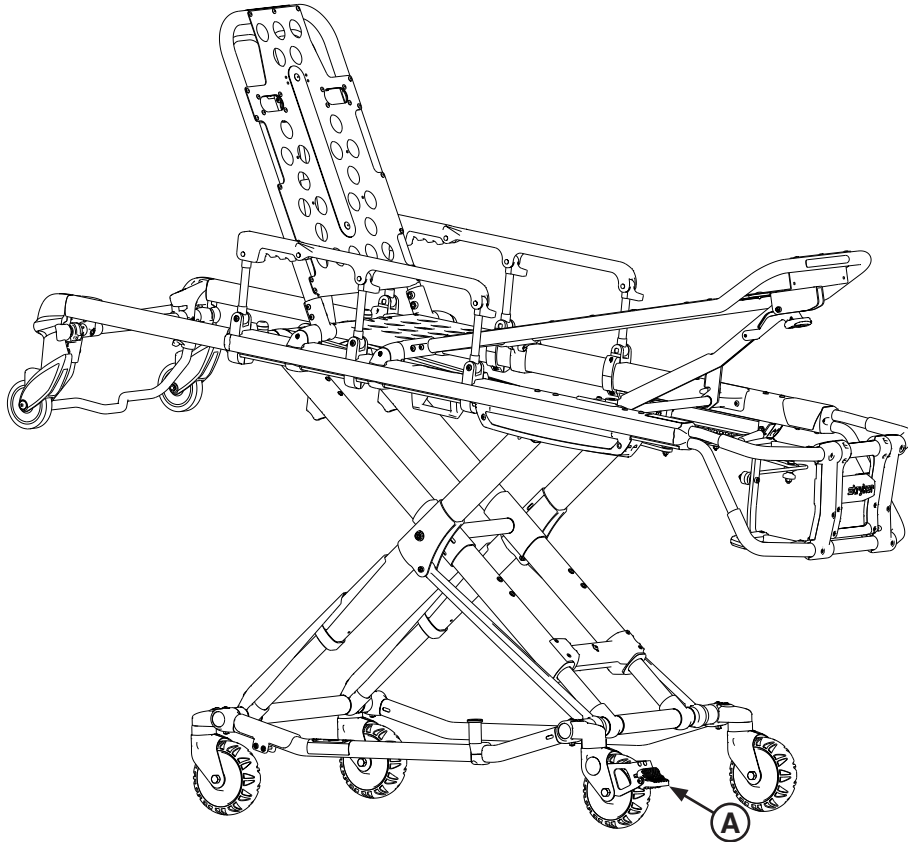

Figure 37
To activate the optional wheel locks, press fully down on the pedal (A) as shown in Figure 37 until it stops and is resting firmly against the surface of the wheel.